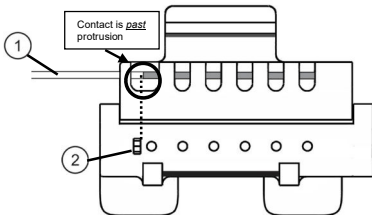

Figure 2. Electrode Tail Fully Inserted into Block with Contacts Aligned
3. Immediately upon completion of electrode placement, the tail end contacts (1) need to be attached to the cable via the connector block. Carefully insert the tail of the electrode (1) into the connector block and ensure that the contacts on the electrode tail align with the pins in the connection block. See **Figure 2** for correct alignment.
- 3.1. Ensure the electrode tail (1) is inserted fully by checking that the last contact inserted is **past** the protrusion (2) on the mating surface (See figure 2)